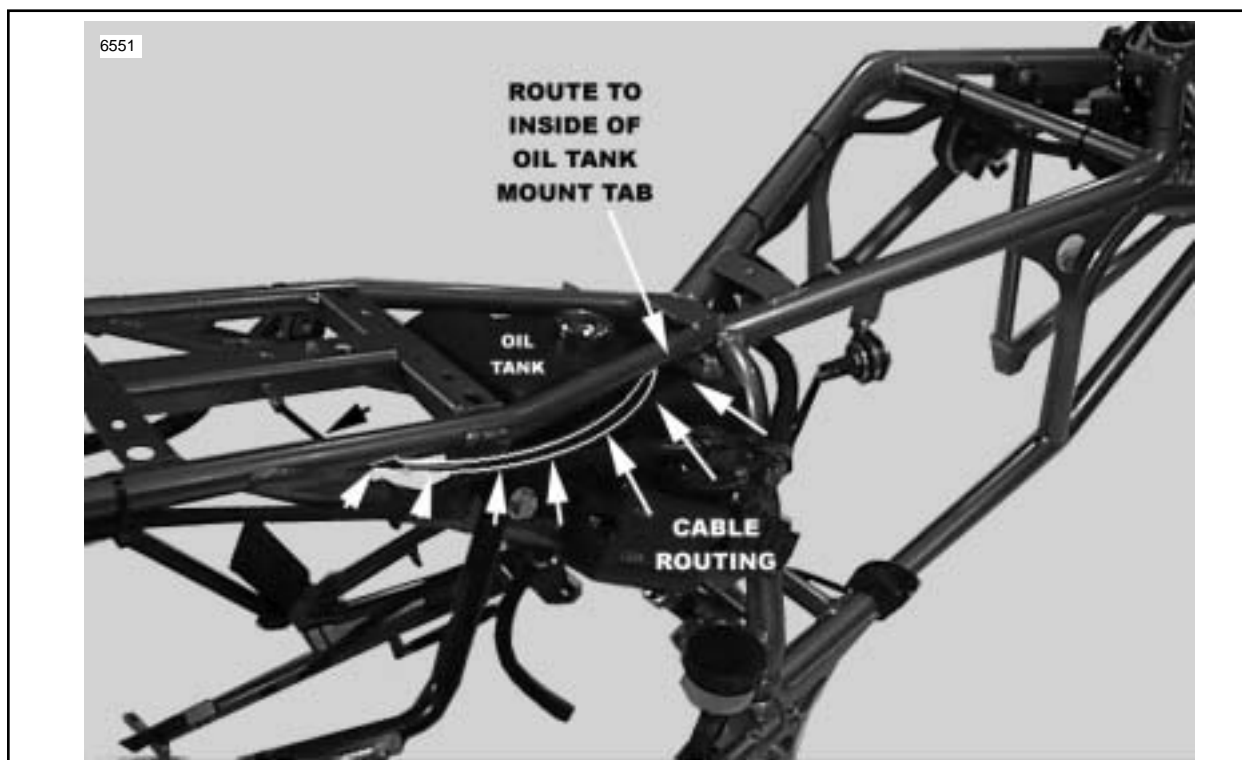

Figure 4. Cable Oil Tank Routing
4. Route the cable assembly between the oil tank and frame as shown in Figures 4 and 5.